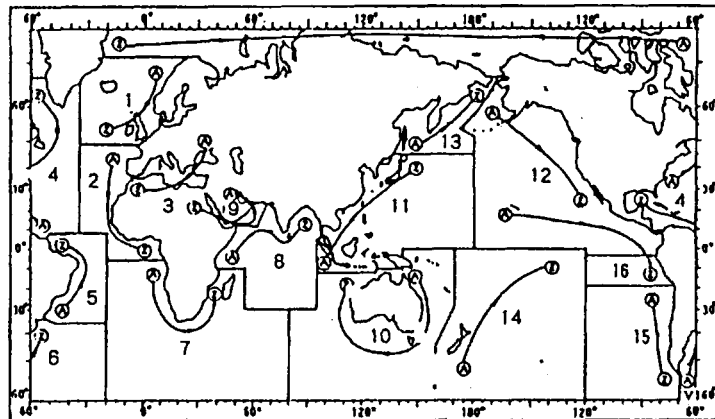

Figure 2-23 Navareas
8. Enter additional Navarea(s) (up to nine) for which you want to receive broadcasts. Figure 2-23 shows the Navareas of the world. Referring to the figure below for numeral and alphabet, enter additional Navareas (up to nine) for which you want to receive broadcasts.